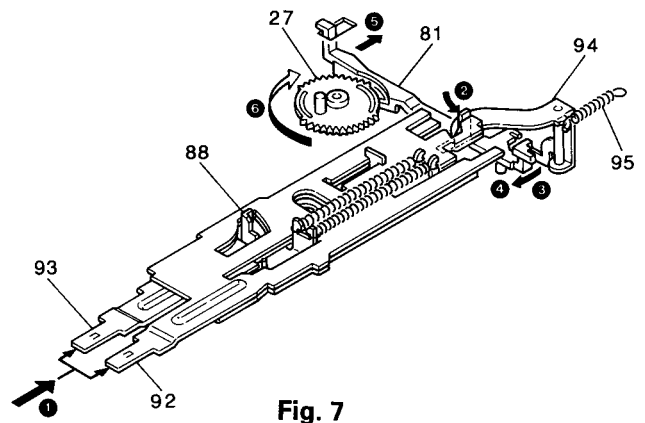

Fig. 7
1. When pressing FF/REW (92 and 93) levers at the same time (❶), the levers are placed into a slot on the PC (Play Change) plate (94) in direction of arrow (❷) in Fig.7.
2. The PC plate (94) moves in the direction of arrow (❸), trigger arm (81) is kicked in the direction of arrows (❹) and (❺), thereby releasing the turn-over gear (27).
3. The turn-over gear (27) is rotated in the direction of arrow (❻) by ED (End Detector) gear (26), which moves main plate (64).